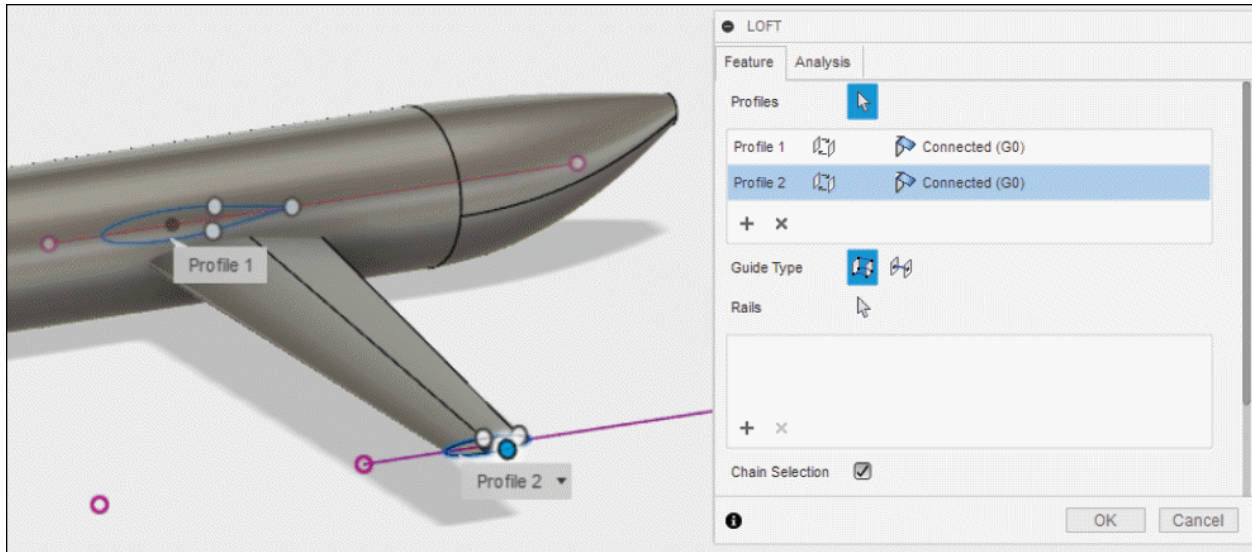

Figure-48. Creating wing
- Select the recently created sketches (ellipse forms) and create the loft; refer to Figure-48. Make sure the **Chain Selection** check box is selected.